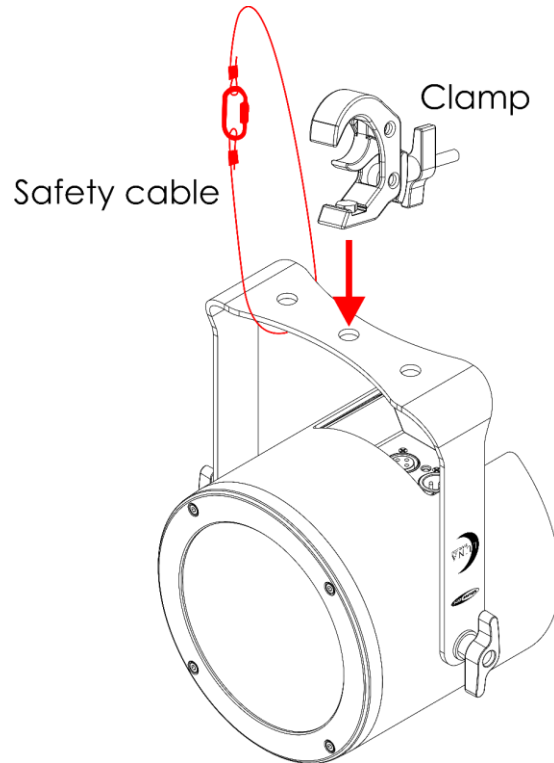

Fig. 07
- 01) Use a clamp to attach the device to the supporting structure, as shown in Fig. 07. Make sure that the device cannot move freely.
- 02) Secure the device with a secondary suspension, for example a safety cable. Make sure that the secondary suspension can hold 10 times the weight of the device. If possible, the secondary suspension should be attached to a supporting structure independent of the primary suspension. Put the safety cable around the **mounting bracket (01)**, as shown in Fig. 07.